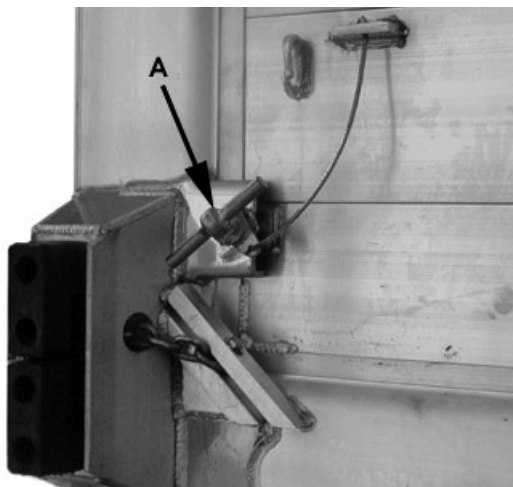

Figure 7-2 Open Latch
1. To open the air flow door, unscrew and remove latch and swing door against side of trailer. See figure 7-2.